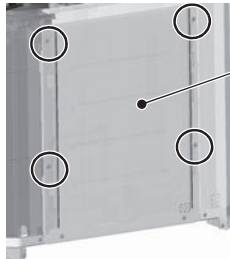

Figure 1
- (1) Remove the front heat exchanger. Refer to 8-12-11 Maintenance Procedures for the Heat Exchanger for details.
- (2) Remove the top, front, and right compressor covers. Refer to 8-12-7 Compressor Replacement Procedure for details.
- (3) Remove the duct from the control box. Refer to the control box replacement procedure for details.
- (4) Remove the right and inside (right) compressor panels by unscrewing the four screws. (Applicable only to the S-module. See Figures 1 and 2.)